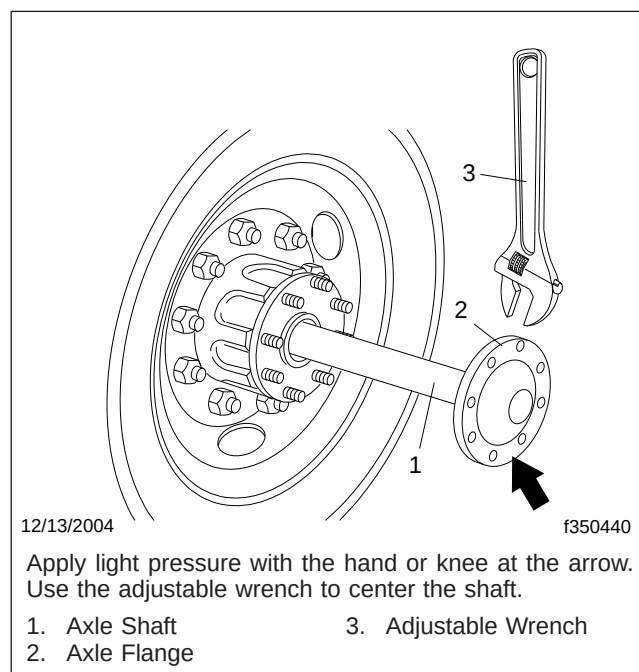

Fig. 6, Installing the Axle Shaft
18.2 Slide the axle shaft into the axle. See Fig. 6.